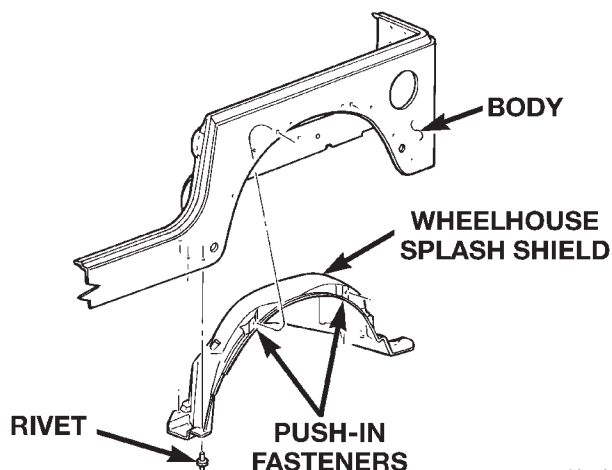

Fig. 72 Wheelhouse Splash Shield
(1) Remove the plastic push pins that attach the splash shield to the wheelhouse (Fig. 72).
(2) Remove the push-in fasteners attaching the splash shield to the wheelhouse. (The push-in fasteners are molded into the splash shield.)
(3) Remove the splash shield from the wheelhouse.